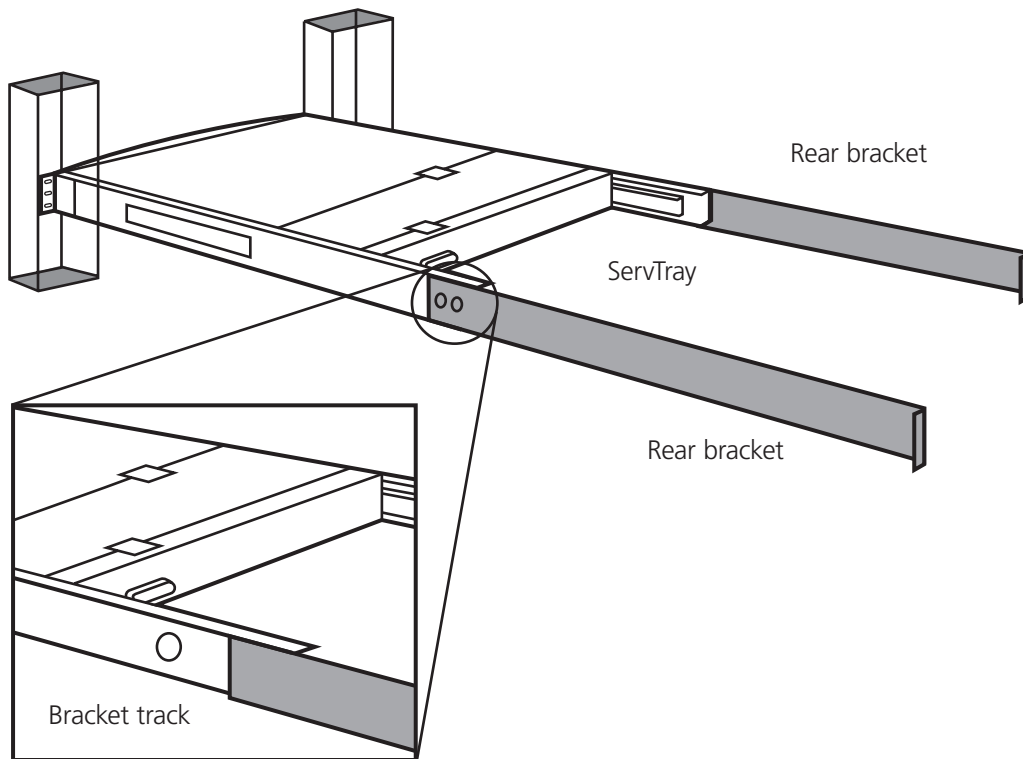

Figure 3-7. Install the rear bracket onto the ServTray.
4. Slide the rear bracket into both sides of the unit. Make sure that the two wheels with screws are inside the bracket's track while sliding in the rear bracket. See Figure 3-7.